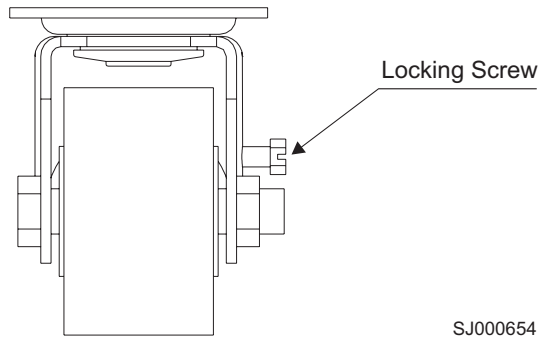

Figure 1. Caster wheel
3. Lock each caster wheel by tightening the screw on the caster. See Figure 1 on page 2.